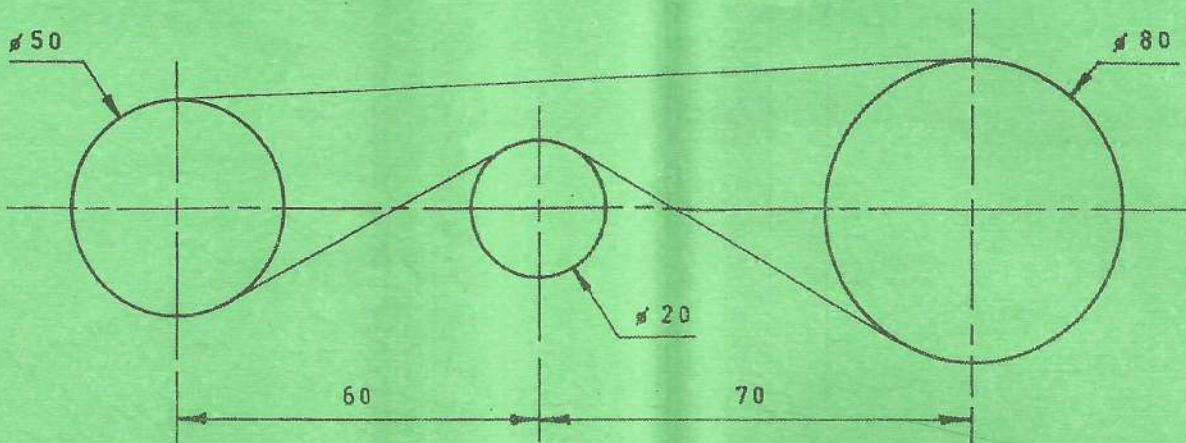

Fig.5
- (b) **Figure 5** shows an outline of three pulley wheel connected by a taut belt. To a scale of 1:1, draw the figure clearly showing the constructions for obtaining the points of contact of the belt and pulleys. (12 marks)